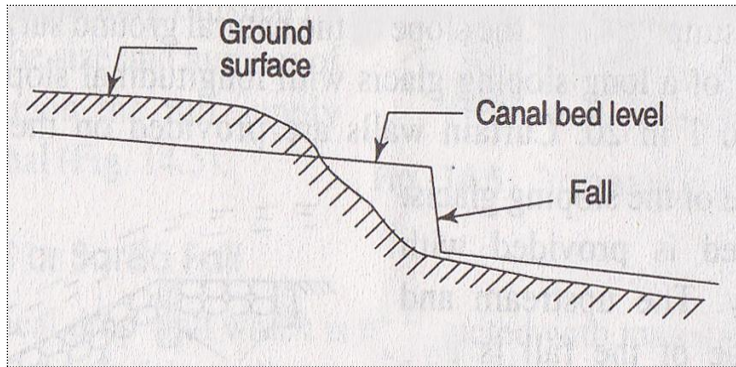

Fig. 2
- When the slope of the ground is more or less uniform and the slope is greater than the permissible bed slope of canal. (Fig.2)